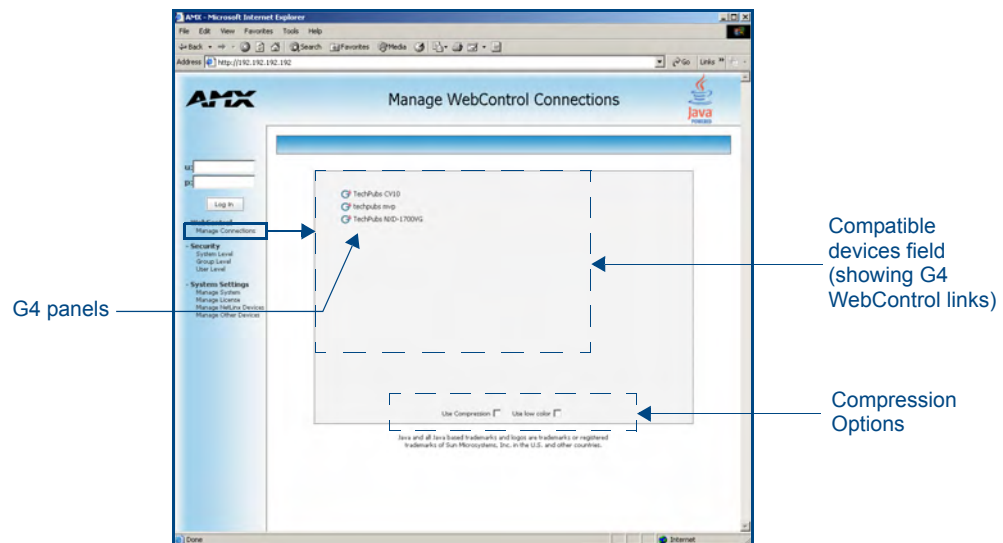

FIG. 44 Manage WebControl Connections page (populated with compatible panels)
5. This Manage WebControl Connections page (FIG. 44) is accessed by clicking on the **Manage connections** link (*within the Web Control section within the Navigation frame*). Once activated, this page displays links to G4 panels running the latest G4 Web Control feature (*previously setup and activated on the panel*).